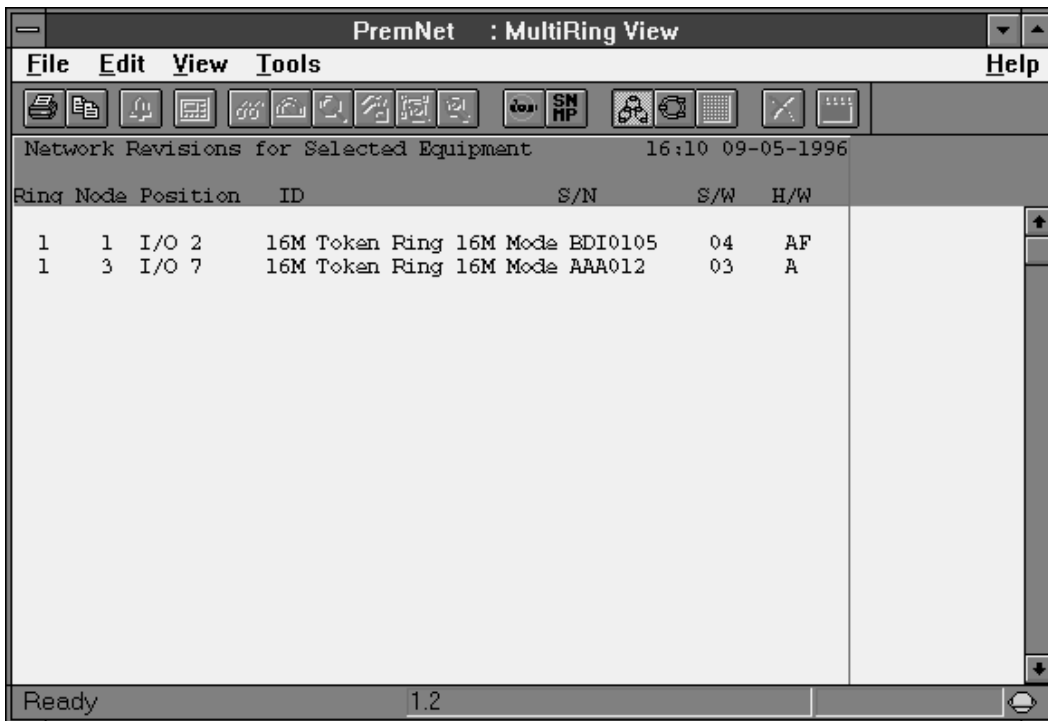

Figure 4-2. Network Revisions Report
6. Select OK to run the report (refer to Figure 4-2).